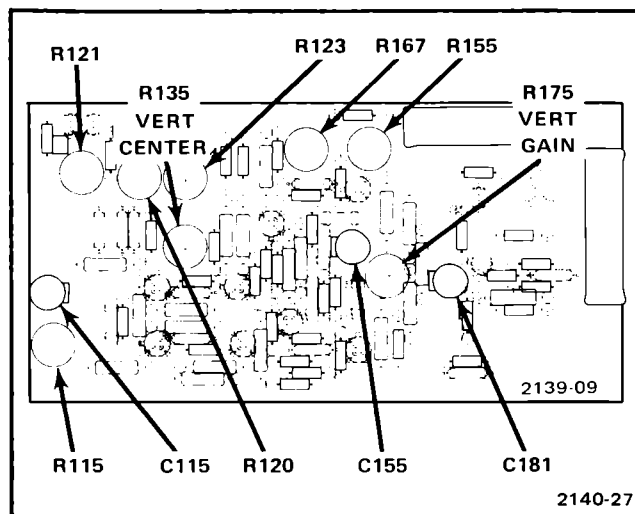

Fig. 4-5. Location of Vertical Amplifier adjustments (Vertical Amplifier board).
- ADJUST—Vertical Centering R135 to position the trace to the center horizontal graticule line. See Fig. 4-5 for adjustment location.
e. ADJUST—Vertical compensation R121 for optimum flat top on the displayed pulse, then adjust R120 and R123, increasing the sweep rate of the time-base, when necessary. Repeat as necessary to obtain optimum flat top on the waveform. See Fig. 4-5 for adjustment location.
f. ADJUST—Vertical compensations C637 (this adjustment is located on the main interface board between vertical compartments, SN B061533 to B094064, and SN B094585 & Up), C115, R115, C155, R155, R167, and C181 in the order given, for optimum square leading corner with aberrations within the limits given in part d of this step. There is direct interaction between C115 and R115, and between C155 and R155. Best results are usually obtained by setting R115 fully clockwise, results are usually obtained by setting R115 fully clockwise, then adjusting C115. See Fig. 4-5 for adjustment location.
- c. ADJUST—Vertical Centering R135 to position the trace to the center horizontal graticule line. See Fig. 4-5 for adjustment location.
e. ADJUST—Vertical compensation R121 for optimum flat top on the displayed pulse, then adjust R120 and R123, increasing the sweep rate of the time-base unit to $1 \mu\text{s}/\text{div}$ and $0.5 \mu\text{s}/\text{div}$, respectively. Repeat as necessary to obtain optimum flat top on the waveform. See Fig. 4-5 for the adjustment locations.
g. ADJUST—Vertical compensations C637 (this adjustment is located on the main interface board between vertical compartments, SN B061533 to B094064), C115, R115, C155, R155, R167, and C181 in the order given, for optimum square leading corner with aberrations within the limits given in part d. There is direct interaction between C115 and R115, and between C155 and R155. Best results are usually obtained by setting R115 fully clockwise, then adjusting C115. See Fig. 4-5 for the adjustment location.